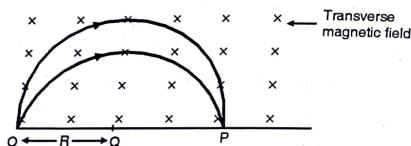

Fig. 7.11.3 : Focussing in transverse magnetic field
- Consider the motion of charged particles in a transverse magnetic field. Suppose a beam of charged particles with the velocity perpendicular to a magnetic field. Originates at point O (Fig. 7.11.3).